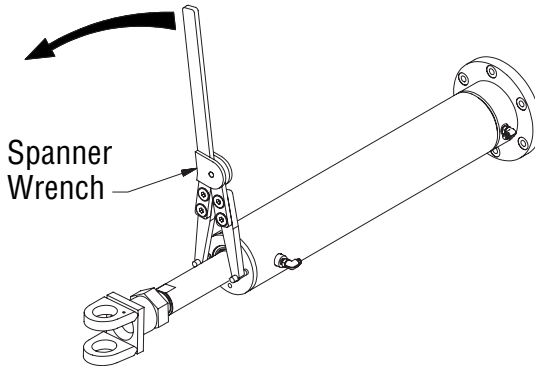

Figure 5-1, Spanner Wrench
2. Using a spanner wrench, turn the head assembly counter-clockwise until it clears the cylinder. (Figure 5-1)